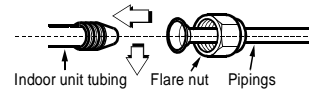

Fig.16
- Sufficiently tighten the flare nut with fingers, and then tighten it with a spanner and torque wrench as shown in Fig.16 & 17.